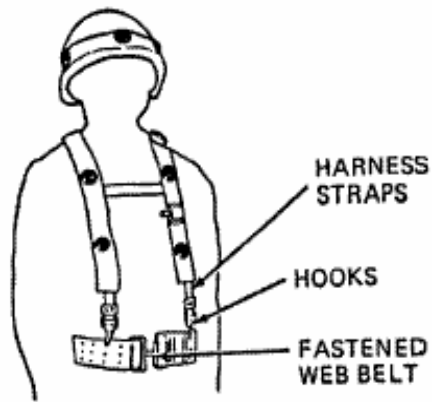

FIGURE 3-7. Torso Harness Attachment
5. Secure the remaining two hooks as in Step 2, on the front of the harness to the belt (refer to Figure 3-7).